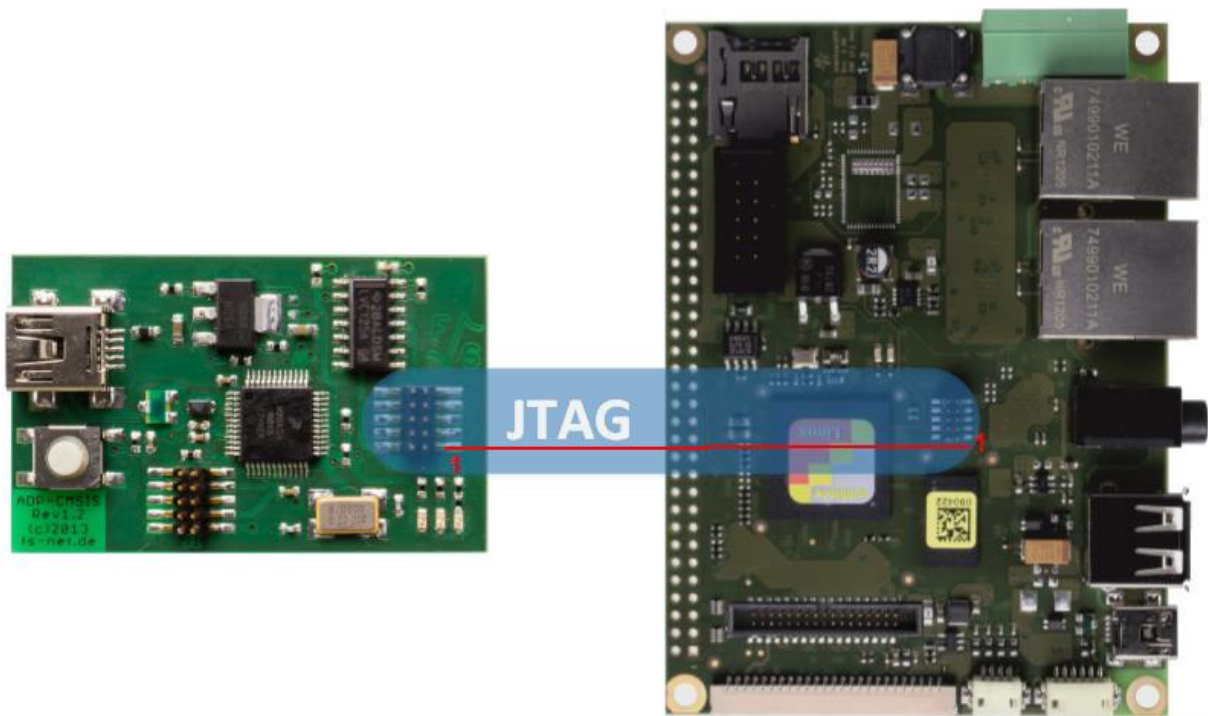

Figure 3: How to connect the Board
- Figure 3: How the connect the Board 5